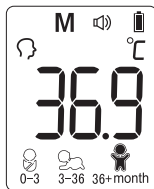

Figure 8
2. The thermometer will automatically memorize the last 30 temperature readings. Each memory also records the measurement mode icon. Each time the *Setting Button* is pressed, the screen displays past readings that correspond with a number 1–30. The number 1 reflects the most recent reading, while the number 30 reveals the oldest reading stored in memory. (See Figure 8)